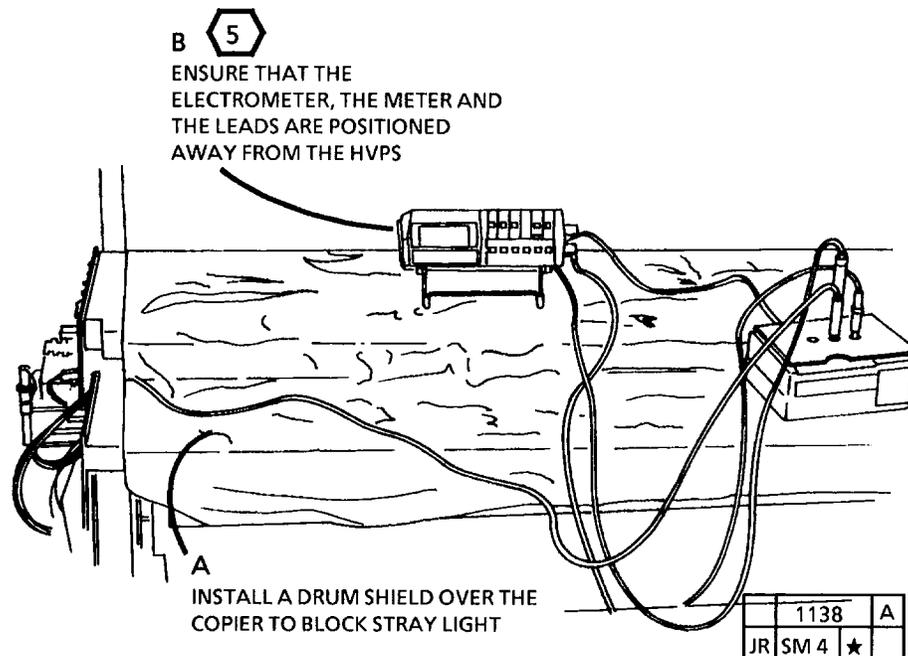

Figure 3. The Correct Position of the Electrometer, Meter and the Leads
7. PLACE TWO (2) SHEETS OF CLEAN 20 POUND (80 gsm) PAPER ON THE ENTIRE SURFACE OF THE PLATEN BEFORE INSTALLING THE DOCUMENT HANDLER.
9. (FIGURE 3): THE CORRECT POSITION OF THE ELECTROMETER, METER AND THE LEADS.
5 STEP 9 B: The electrometer, meter and the leads must be positioned away from the HVPS in order to obtain correct voltage measurement. The meter and electrometer must also be separated as shown in Figure 3. Position the electrometer, meter and the leads this way for the remainder of the procedure. Do not connect the meter and electrometer at this time. The purpose of this illustration is to show the proper position. Attach the components as needed in subsequent steps.
6 The Electrometer, meter, and the leads are shown in this position only for clarity. Figure 3 of this procedure shows proper position when performing the Electrostatic Series.
7 The Electrometer, meter, and the leads are shown in this position only for clarity. Figure 3 of this procedure shows proper position when performing the Electrostatic Series.
8 Position the DMM and the Electrometer as shown in Step 7, Figure 3.